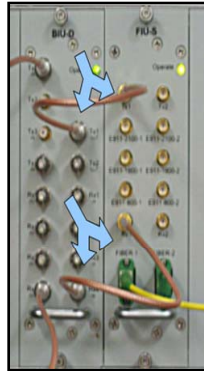

Figure 4-22. Connect the BIU to the FIU
4. Connect the other end of the cable to the FIU port labeled "Rx1", **Figure 4-22**.